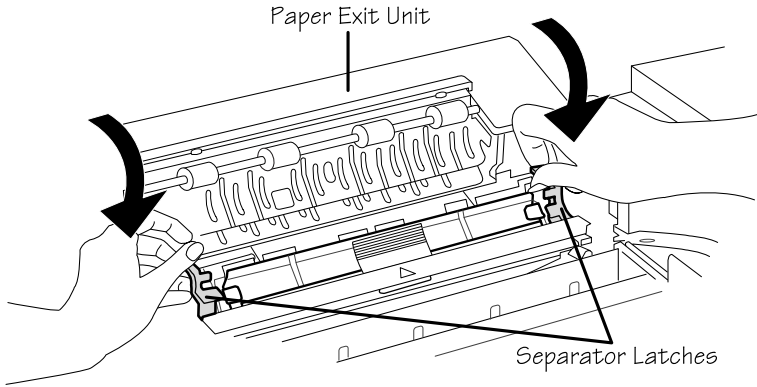

Fig. 2.18 Close Separator Pawl Unit (front view)
4. Snap the separator pawl unit closed (fig. 2.18).